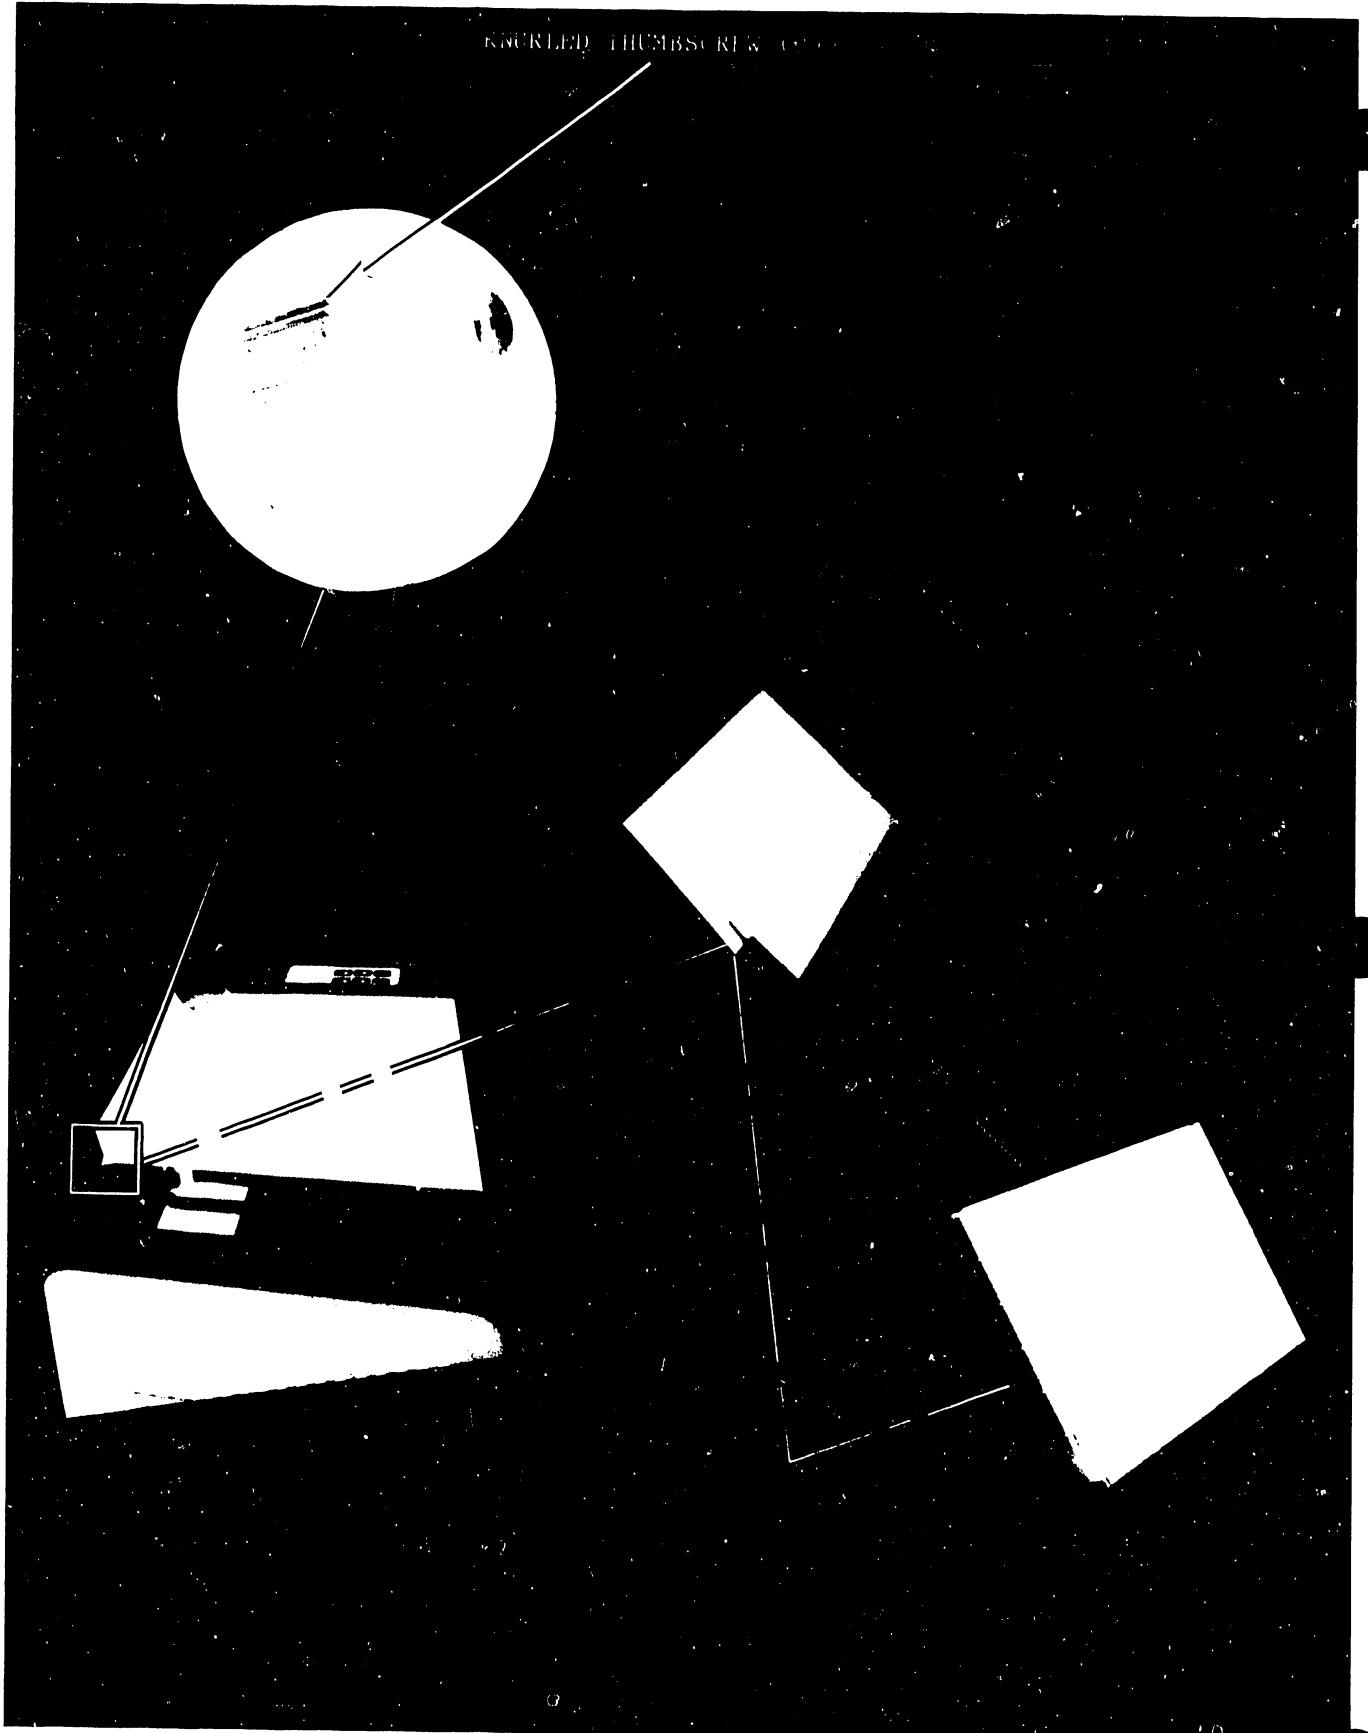

FIGURE 4-9 STATIC ELIMINATOR INSTALLATION
5. Install static shield on the feed tray (see Figure 4-9).